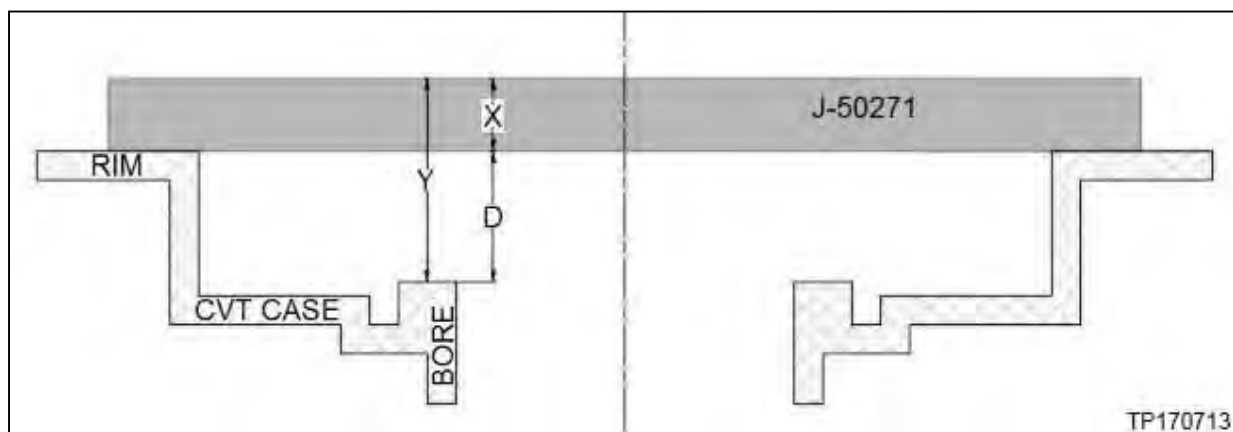

Figure 137
- The thickness of the gauge block is shown as "X" (Figure 137 on page 67).
104. Measure the average distance (Y) shown in Figure 137 as follows:
- Refer to Figure 135, Figure 136 and Figure 137, then proceed to page 68.